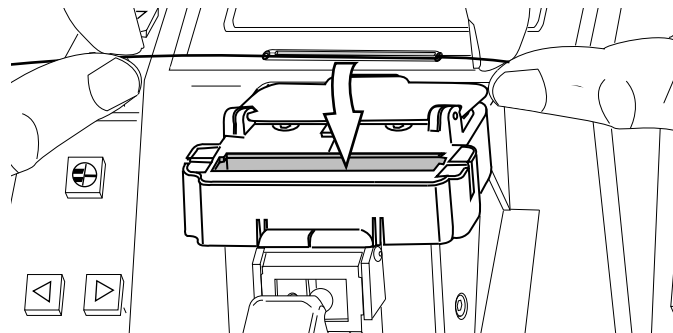

Figure 24
- c) Open the heater oven cover. Place the splice protector sleeve into the heater (Figure 24).